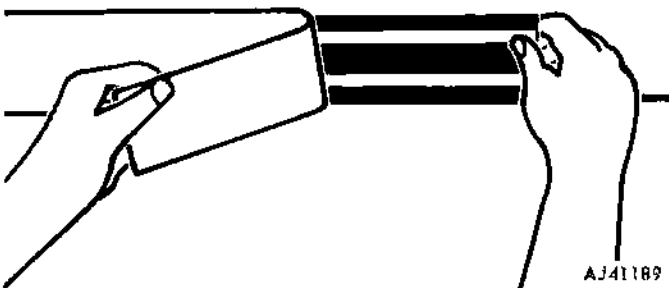

Fig. 20-4 Removing Backing Paper
(5) Remove approximately six inches of paper backing from one end (fig. 20-4).